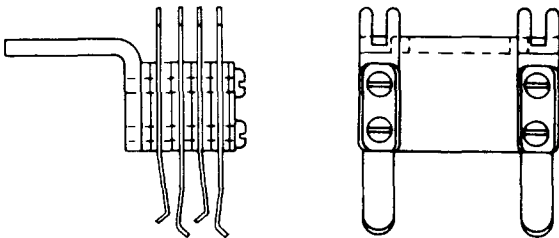

Fig. 4—357A Jack
2.04 **357A:** This multicontact jack (Fig. 4) is used with the 240A plugs in connection with a switchman's talking line circuit in Step-By-Step Systems.